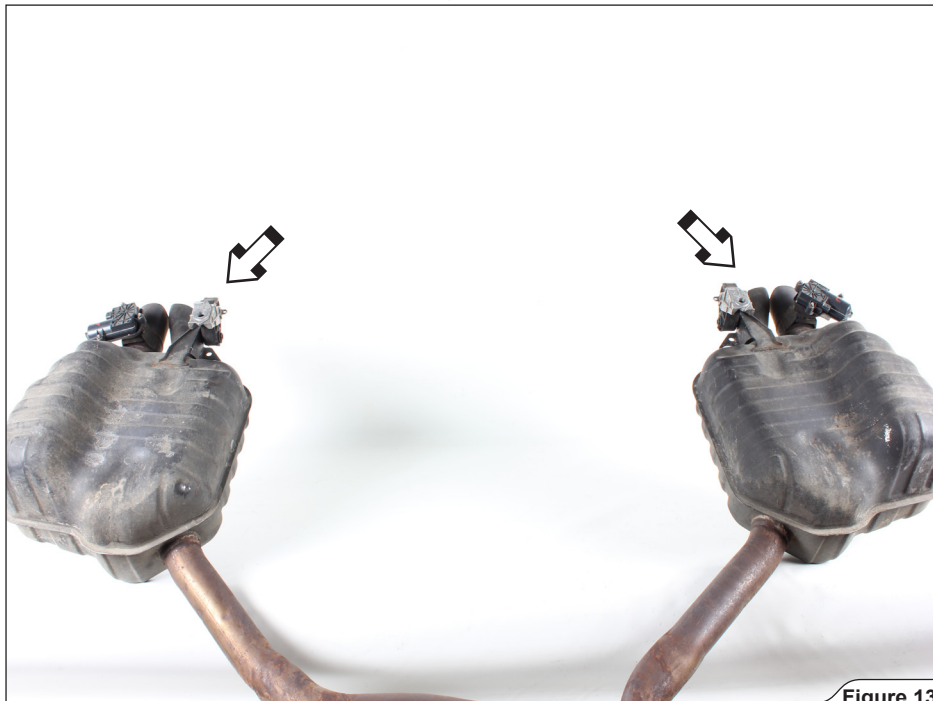

Figure 12
8. Unscrew and remove both tail pipes off the bumper (Figure 12).